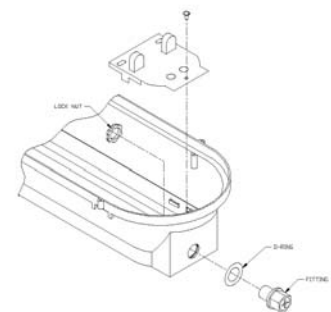

Fig 3
2. Install wet location fitting per Fig 3 using a 7/8" hole saw and removing KO from end of channel..